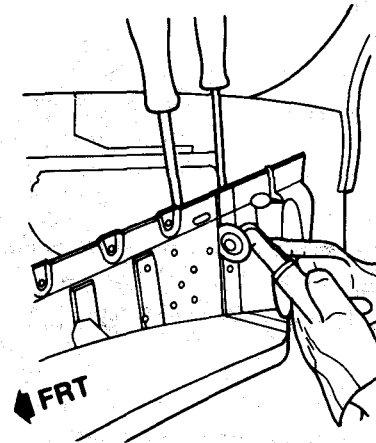

Figure 3-11.
- 5 Cut side rail assembly at scribed lines, being careful not to cut adjacent panels (Figure 3-11).